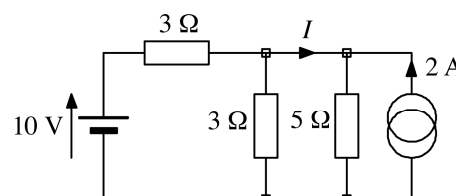

Figure 1c
- c. Simplify the circuit of figure 1c to a series loop by using a Thevenin transformation and a Norton to Thevenin transformation. Hence find the current,  $I$ .
Check your value of  $I$  by applying the principle of superposition to the circuit of figure 1c.